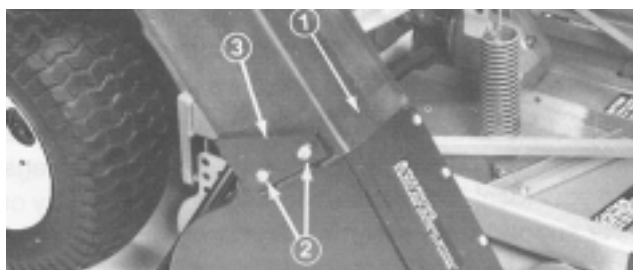

Figure 8
3. Lower hopper hood and align chute with snout. Secure chute in position with locknuts and brackets. Wide end of brackets to be positioned toward rear (Fig. 8).